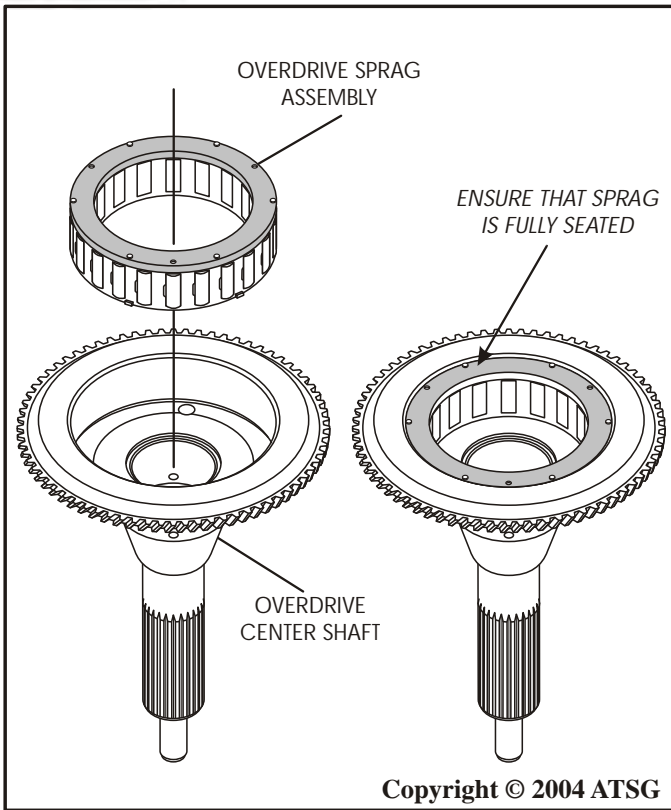

Figure 74
4. Install the overdrive sprag assembly into the overdrive center shaft, in the direction shown in Figure 74, until fully seated.